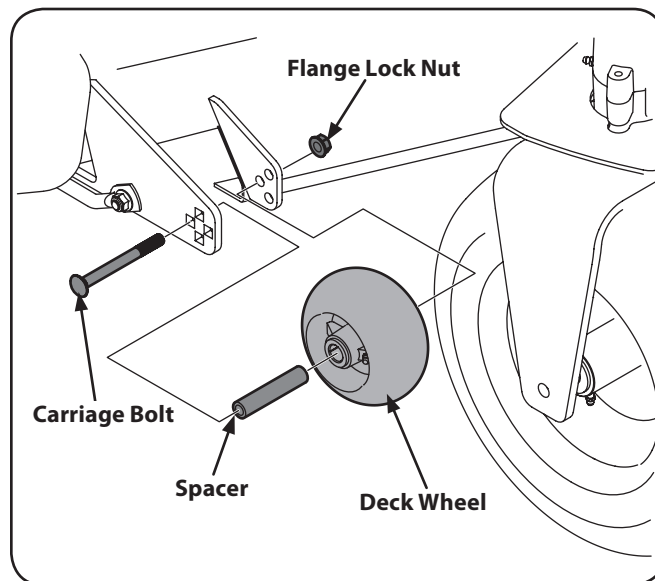

Figure 6-3
- Remove the flange lock nut and carriage bolt securing the front deck wheel and spacer to the deck. Remove the wheel and carriage bolt. Refer to Figure 6-3.